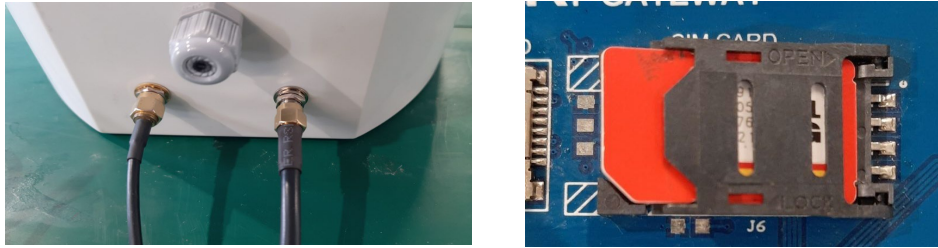

Figure 5-3
- Connect both the antenna's (cellular and RF) provided with the supply to their respective antenna adaptor as shown in figure 5-3.